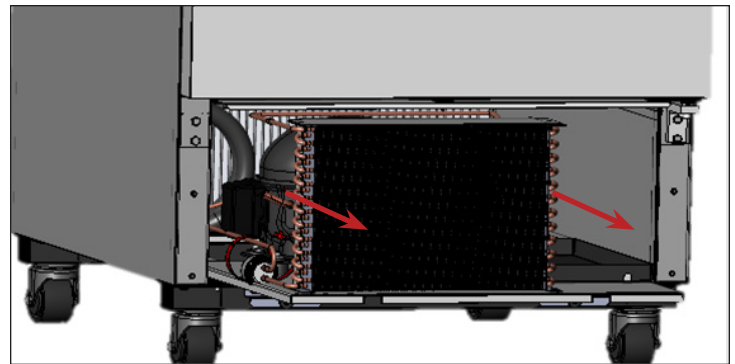

Fig. 6. Carefully slide the condensing unit out.
7. Carefully slide the condensing appliance out (tubing connections are flexible). See fig. 6. Gently blow compressed air or CO2 through the coil until it is clean.